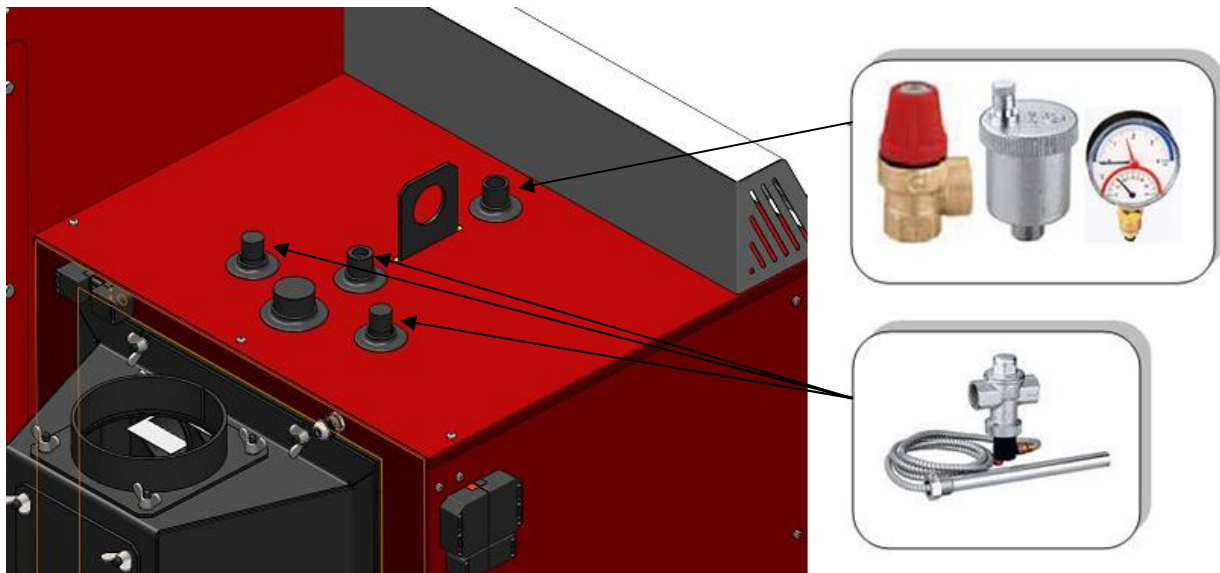

Figure 7. Installation of safety elements
- Place the installation is shown in the Assembly diagram of boiler onto the installation in **Figure 7**. The boiler is supplied with a copper coil so it is necessary to use the over temperature relief valve from group of thermal safety values with the exchanger, as shown in **Figure 7**. Cold sanitary water is brought to the over temperature relief valve from group of thermal safety values. When the over temperature relief valve from group of thermal safety values -probe has the information that the temperature is over 95 degrees the over temperature relief valve from group of thermal safety values is opened and water flows through copper coil. After some time the temperature of water in boiler returns to its normal state.